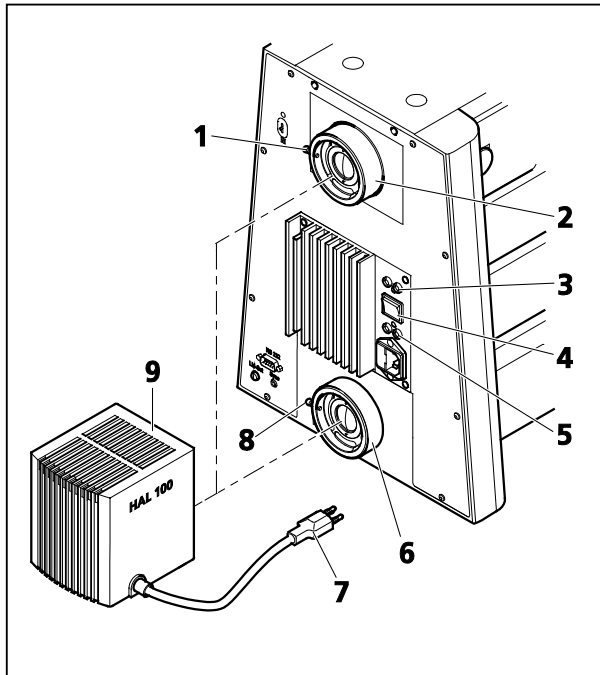
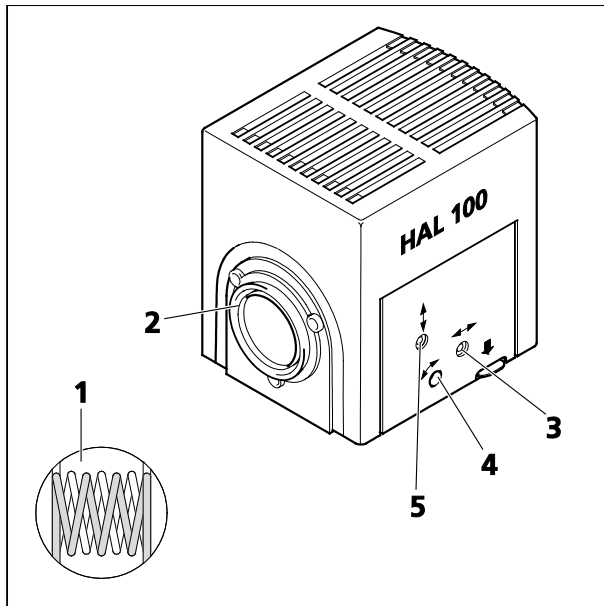

Fig. 43 Attaching the HAL 100 halogen illuminator
Fig. 46 Adjusting the HAL 100 halogen illuminator
- Insert the dovetail mount of the lamp housing (Fig. 43/9) into the corresponding socket (Fig. 43/2 or Fig. 43/6) and, using the SW 3 ball-headed screwdriver, tighten it with clamping screw (Fig. 43/1 or Fig. 43/8).
- Insert the 3-pole lamp plug (Fig. 43/7) into the 3-pole 12 V / 100 W socket (Fig. 43/3 – for reflected light or Fig. 43/5 – for transmitted light) on the back of the instrument.
- Switch the toggle switch for transmitted / reflected light (Fig. 43/4) to the required position. If the motorized stand is used, switch between reflected light and transmitted light using the TFT display touch screen.
(1) Coarse adjustment
- Loosen clamping screw (Fig. 43/1 or Fig. 43/8) and remove the operational halogen illuminator (Fig. 46/2) from the microscope stand.
- Using the SW 3 ball-headed screwdriver turn adjusting screw (Fig. 46/3) until both images of the lamp filament appear as sharp as possible on the projection surface.
- Then, turn adjusting screws (Fig. 46/4 and 5) until the lamp filament of one image exactly fills the gaps of the reflected filament image (Fig. 46/1).
(2) Fine adjustment
- Remove the eyepiece and, in the pupil image visible in the eyepiece socket, center the lamp filament and its reflection with adjusting screws (Fig. 46/4 and 5).
- Using adjusting screw (Fig. 46/3) optimize the evenness of illumination of the pupil image.
- Switch off the microscope as described in Section 4.3, disconnect plug (Fig. 43/7) from connector 12 V/100 W (Fig. 43/3 – reflected light or Fig. 43/5 – transmitted light) and allow to cool down for approximately 15 minutes.
The add-on illuminator is equipped with a BNC port (Fig. 43/4) for TTL trigger control.